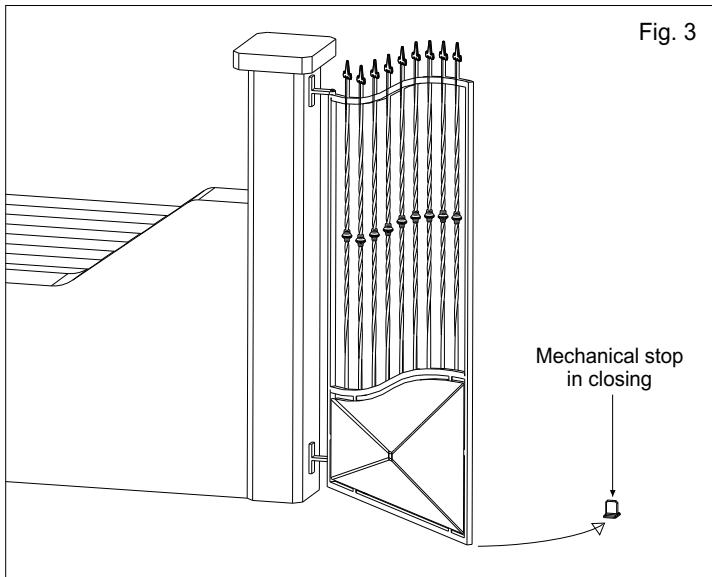

Fig. 3
- E. in case of leaf length superior of 1,8 m and 150 kg of weight, it is recommended to fix to the ground a mechanical stop in closing (Fig. 3).